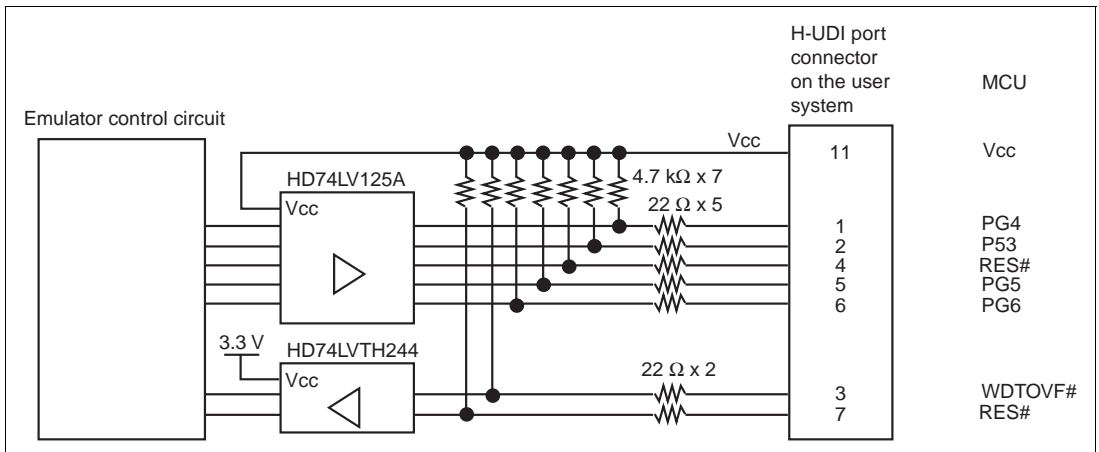

Figure 1.7 Interface Circuit in the Emulator (Reference)
- Figure 1.7 shows the interface circuit in the emulator. Use this figure as a reference when determining the pull-up resistance value.